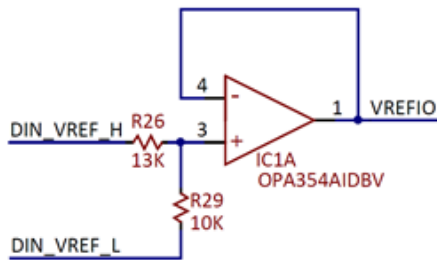

Figure 10 VREFIO reference. []
- The reference voltage VREFIO is generated as in Figure 10. DIN_VREF_H and DIN_VREF_L are connected to FPGA pins in bank 1. Bank1 is supplied at VCCIO. VREFIO can be set at: